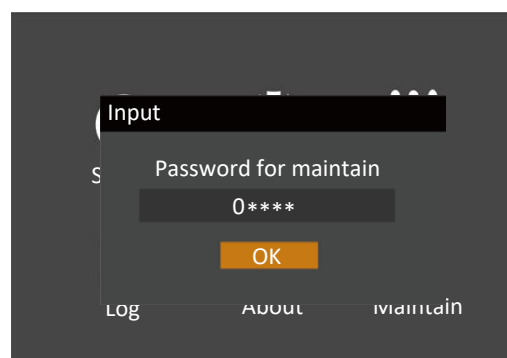

Figure 5-19 Inputting password
2. Press the **Enter** key, the interface shown in Figure 5-19 will appear.